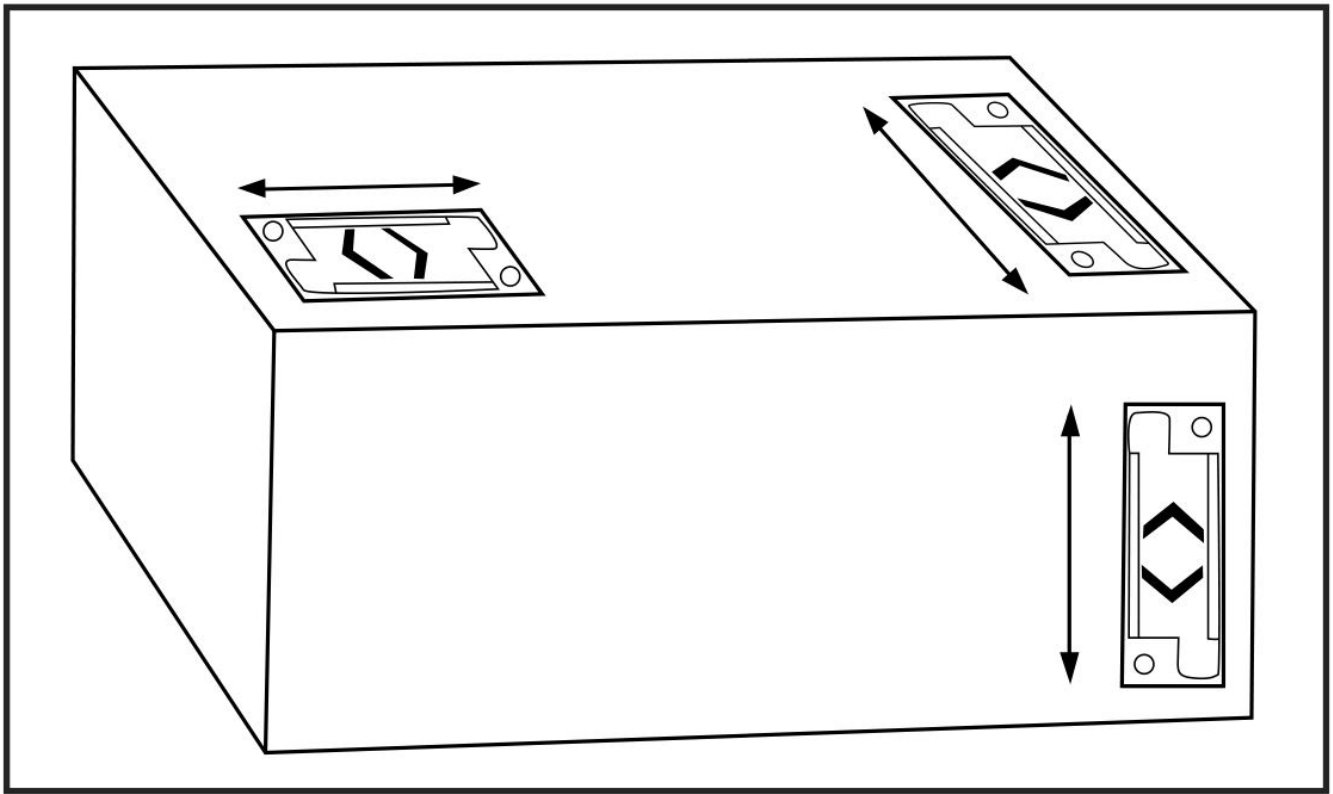

Figure 1
1. Mount the DROP (N) TELL indicator with either adhesive back tape or two #6-32 screws. There is pressure sensitive tape on the back of the indicator.
3. The DROP (N) TELL indicator must be aligned with arrows pointed toward the direction of the shock to be monitored. Three units are needed to provide complete three-dimensional readout (six directions). (See Figure 1)